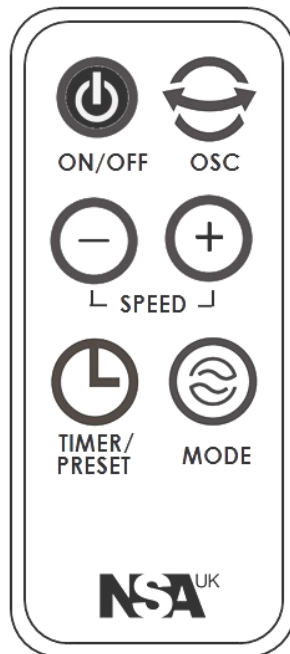

FIG.6
27. Remote Control (Figs.6 & 7)
The fan can be operated either manually by the control panel (Fig.5) on the fan unit itself or by the remote control (Fig.6) supplied with the product.